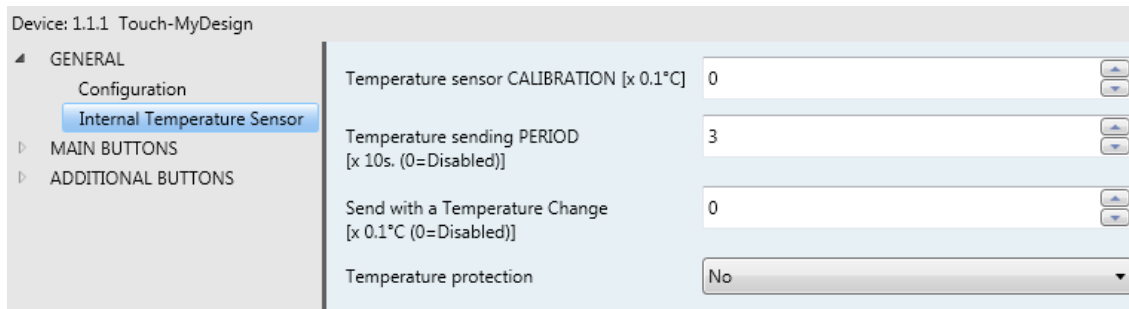

Figure 11 Internal Temperature Sensor (General)
- **Internal Temperature Sensor:** enabling (“Yes”) this parameter will bring up a new object (“[Internal sensor] Current temperature”), as well as a new parameterisable window (see Figure 11), from where it is possible to define the following: